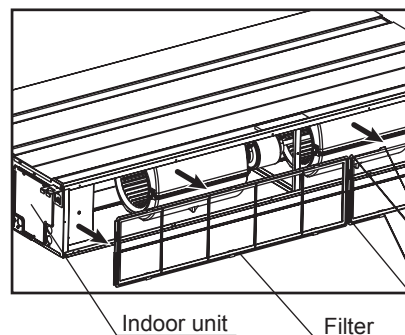

Fig.2-1
1. Remove the filter on the indoor unit. (Fig. 2-1)